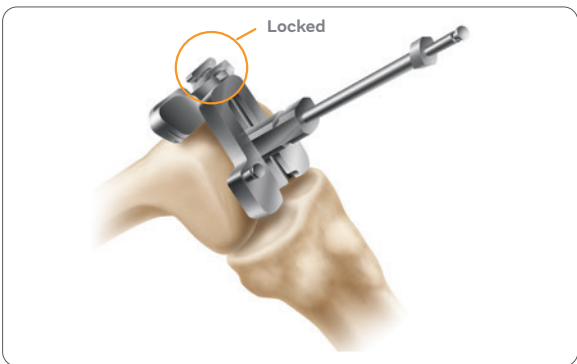

Figure 6
2. Slide the intramedullary rod of the assembly into the femoral canal until the alignment guide contacts the distal femur (**Figure 6**).